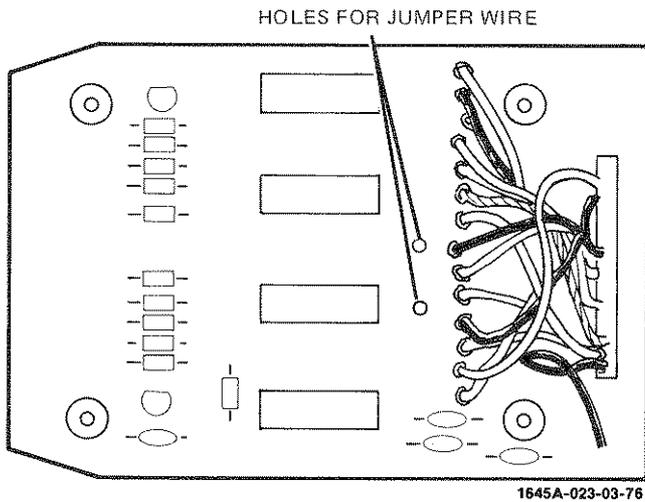

Figure 3-8. Data Transmission Inhibit Modification
**3-61. HANDSHAKE SIGNALS.** When the 1645A DTR/RTS/BACKWARD CHANNEL switch is in the RTS position, the instrument transmits data continuously, not waiting for CTS (Clear To Send) from the modem. To inhibit data transmission until CTS is received, a jumper or 10-ohm resistor must be inserted between pin 8 of U4 and pin 5 of U2 on the RS-232C interface board, A15. Holes are supplied near the middle of the board, parallel to the square pins, for this purpose (see figure 3-8).